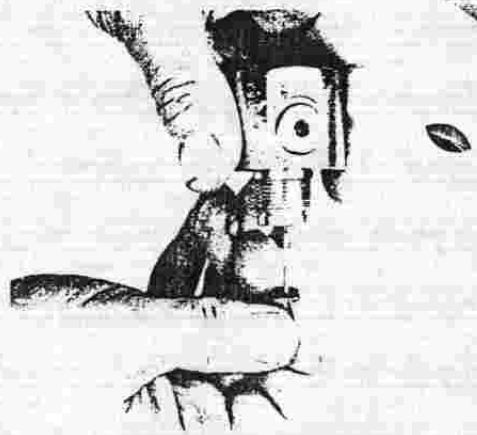

FIGURE 7
- 12. While holding the small end of the new high-pressure seat (Item 16) in one hand, insert the end of the pin (Item 17) into the center of the seat. Then carefully insert this subassembly up into the center hole of the first-stage body. (See Figure 7.) Gently "wiggle" this subassembly, if necessary, during this procedure to ensure that the end of the pin is completely seated in the pin support (Item 6).